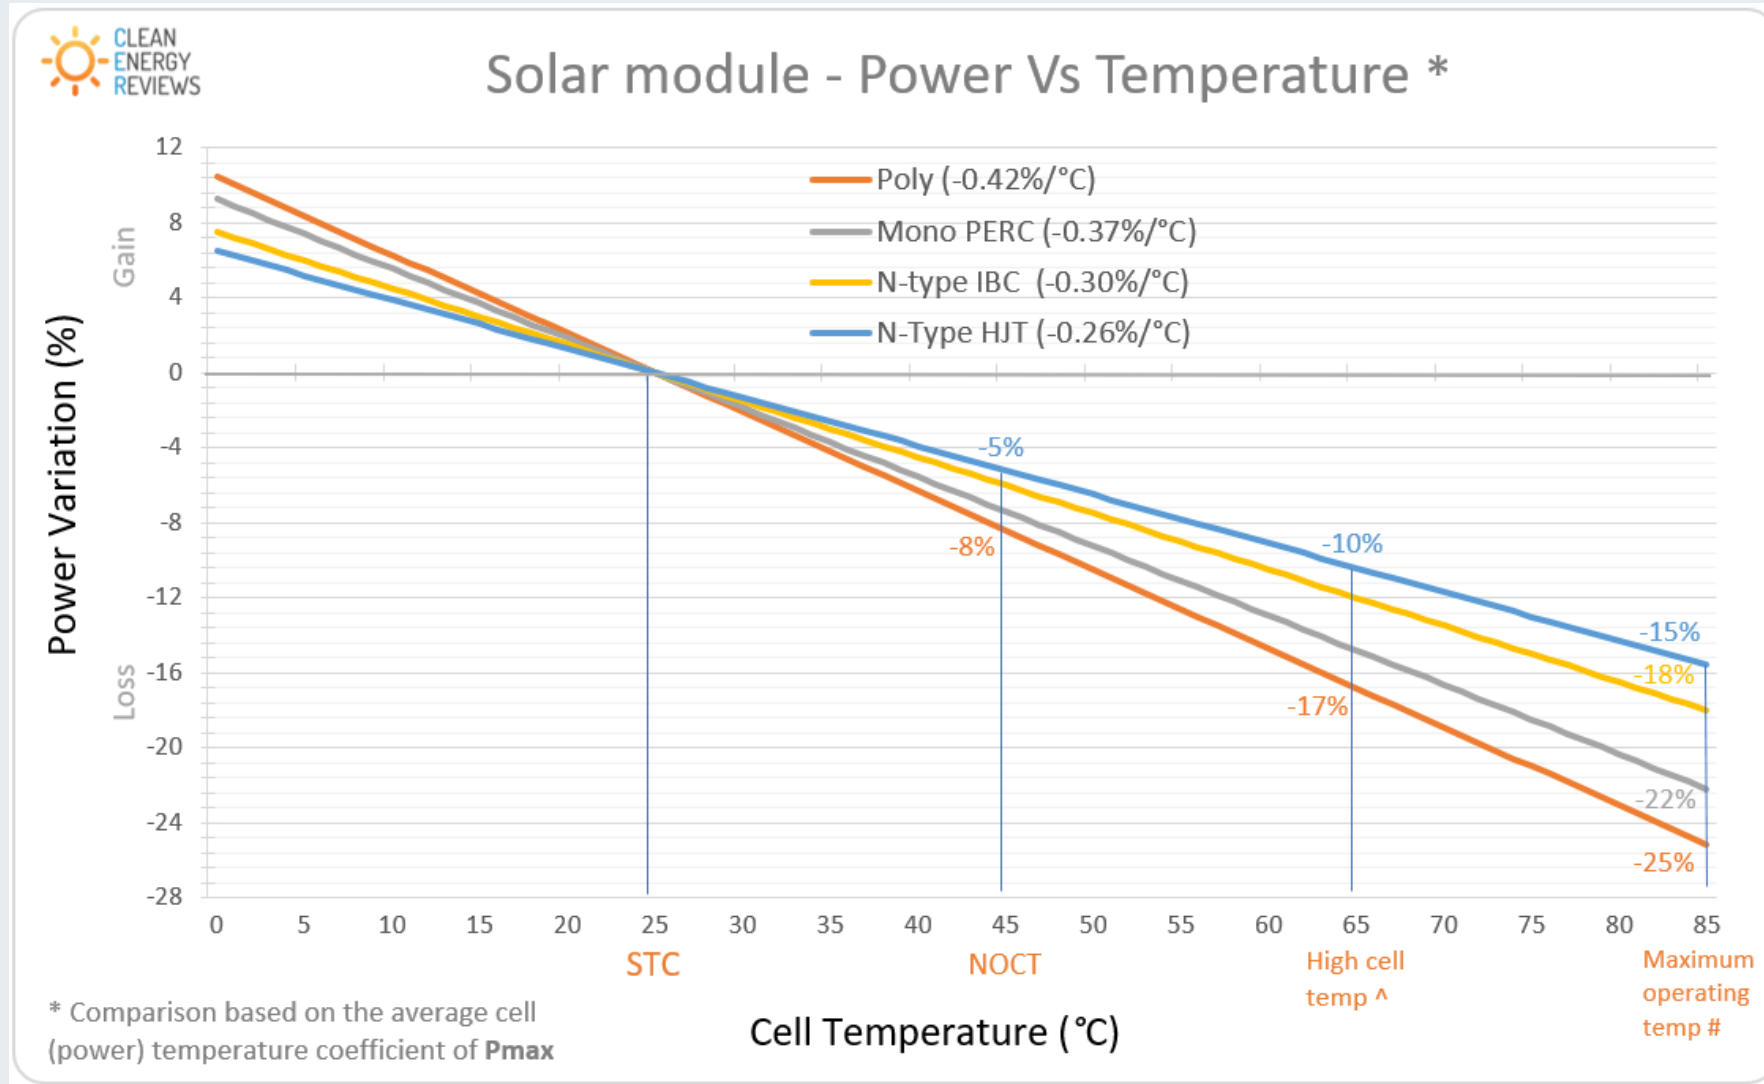

Figure 5. PV power vs cell temperature. url: <https://homesolarsimplified.com/most-efficient-solar-panels-for-2023/>
- The effect of temperature in power output performance of PV is given in Fig.5.